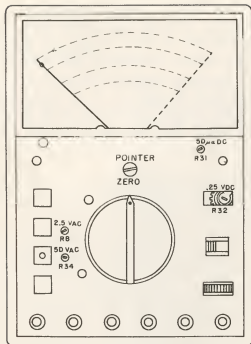

FIGURE 7. CALIBRATION
**CALIBRATION:** This instrument has been calibrated at the factory. However, if recalibration is required, it can be done without removing the instrument from the case. See figure 7 for adjustment locations. Minimum calibration equipment required is as follows: